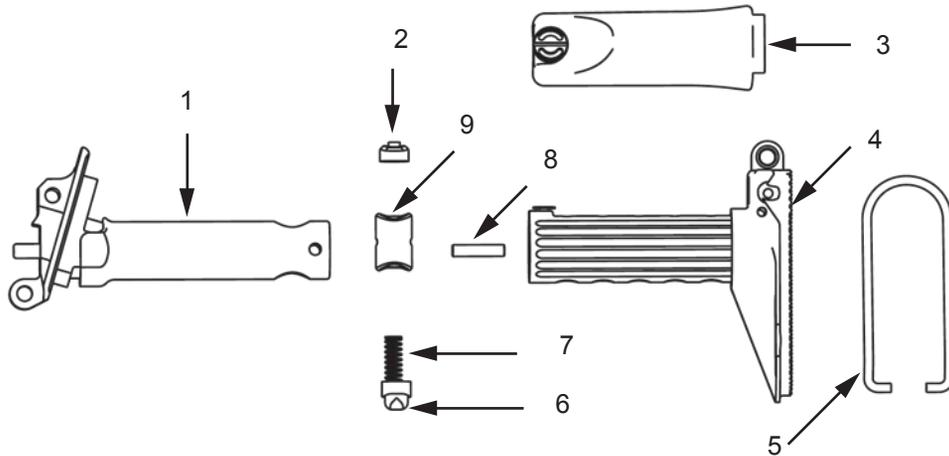

Figure 4. Lightweight Collapsible Buttstock Disassembly.
1. Fully extend collapsible buttstock assembly (Figure 4).
2. Remove cheekrest (Figure 4, Item 3) from buttplate and stock assembly (Figure 4, Item 4) by loosening the thumbscrew in cheekrest (Figure 4, Item 3). Do not remove thumbscrew from cheekrest.
3. Completely depress adjustment detent (Figure 4, Item 6) and retaining detent (Figure 4, Item 2) while rotating the buttplate assembly (Figure 4, Item 4) counter clockwise (CCW).
4. Remove buffer and backplate assembly (Figure 4, Item 1) from buttplate and stock assembly (Figure 4, Item 4).
5. Remove adjustment detent (Figure 4, Item 6), spring helical compression (Figure 4, Item 7), and retaining detent (Figure 4, Item 2) from buffer and backplate assembly (Figure 4, Item 1).
6. Remove straight pin (Figure 4, Item 8) from buffer and backplate assembly (Figure 4, Item 1).
1. Visually inspect cheekrest (Figure 4, Item 3) for cracks and screw for burrs, and replace if damaged.